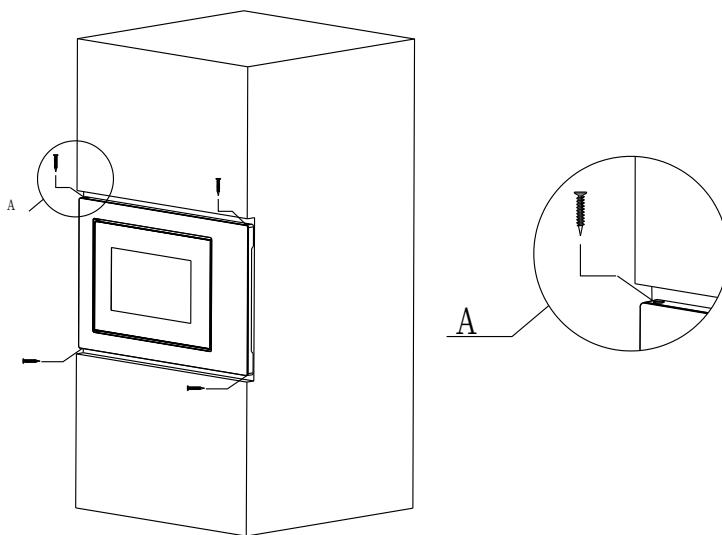

Fig.4
- d) Use the screws provided in the parts package to secure the microwave oven in the cabinet. (Fig.4)